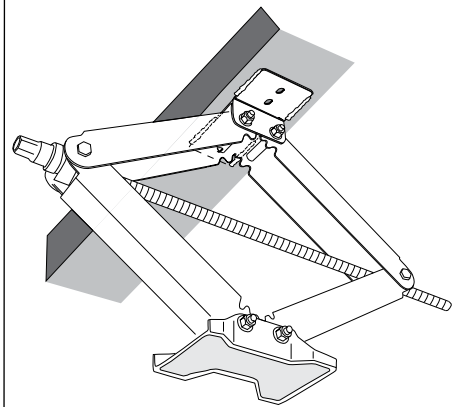

Figure 2
- Once jack placement is determined, weld the mounting plates to the vehicle's frame. Use four 1" welds for this step. (fig. 2)